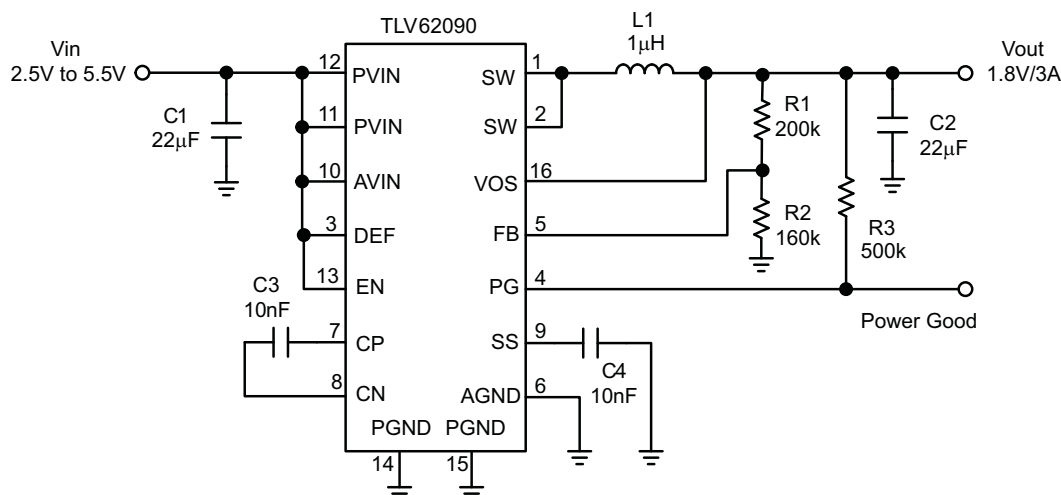
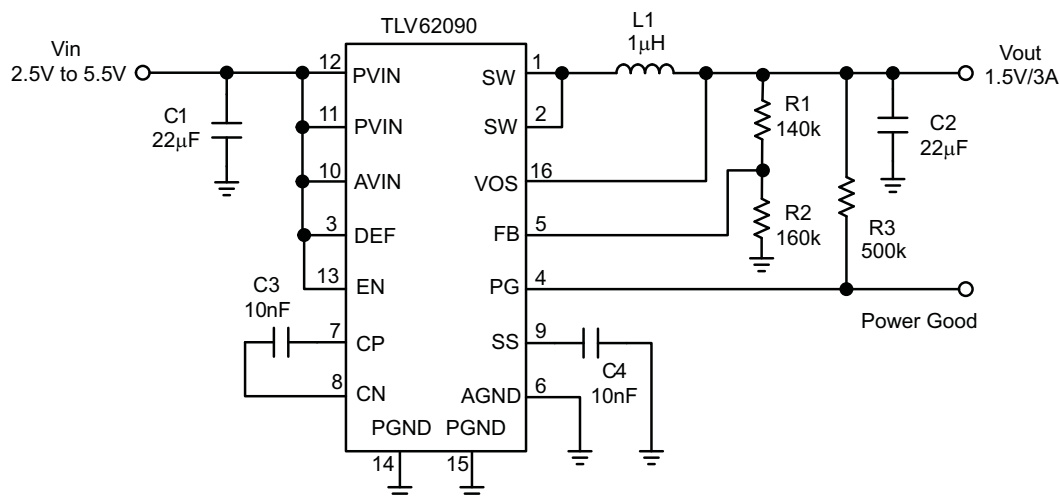
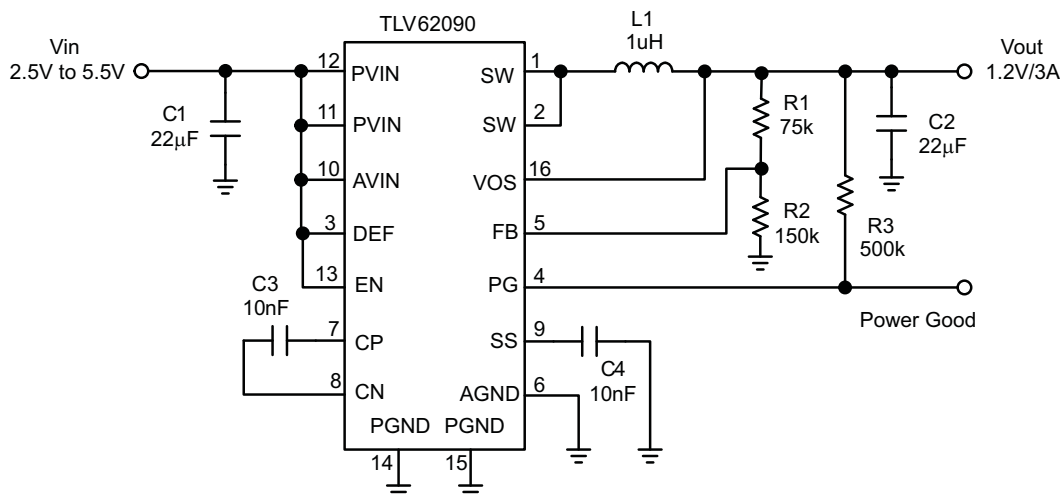
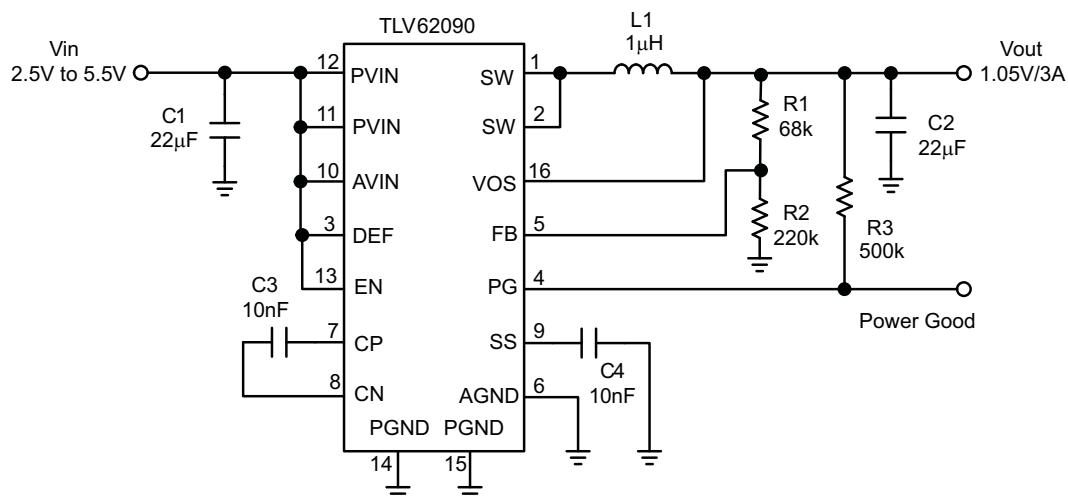

Figure 21. 1.8 V Adjustable Version
Figure 22. 1.5 V Adjustable Version
Figure 23. 1.2 V Adjustable Version
Figure 24. 1.05 V Adjustable Version
- Changed Vin From: 2.5V to 6V To: 2.5V to 5.5V in Figure 21, Figure 22, Figure 23, and Figure 24 14